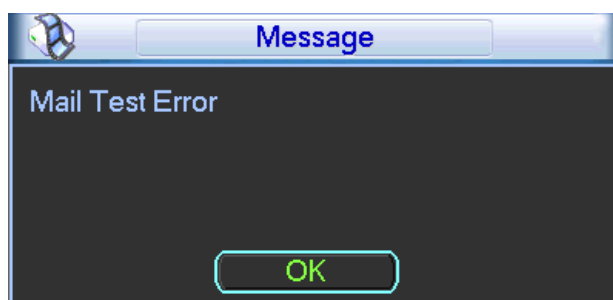

Figure 3-58
- Interval: Please check the above box to enable this function and then set the corresponding interval. System can send out the email regularly as you set here. Click the Test button, you can see the corresponding dialogue box to see the email connection is OK or not. See Figure 3-58.